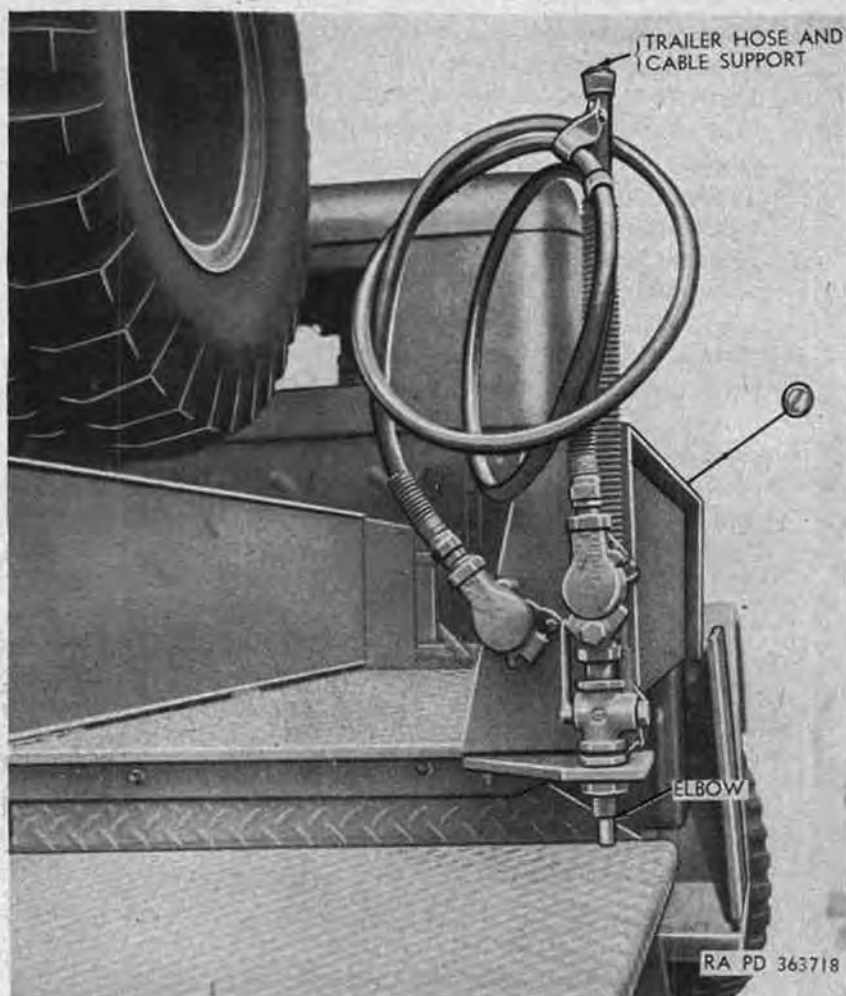

Figure 317. Front view of left trailer hose and cable support M246.
- (1) Remove base plate and pivot post assembly (par. 289).
- (2) Remove fifth wheel (par. 303).
- (3) Remove hydraulic pump and relief valve assembly (par. 288).
- (4) Drain air reservoirs (par. 235).
- (5) Disconnect both ends of air line (fig. 314) connecting elbow (fig. 317) at base of trailer hose and cable supports to tee (fig. 314) at truck-frame side rails. Remove clips securing air lines to crane body, and remove lines.
- (7) Position air lines (fig. 314) on left and right sides of crane body, and secure to body with clips. Connect both lines to elbow (fig. 317) at base of trailer hose and cable supports and to tee (fig. 314) at truck-frame side rails.
- (8) Install hydraulic pump and relief valve assembly (par. 288).
(9) Install fifth wheel (par. 303).
(10) Install base plate and pivot post assembly (par. 289).